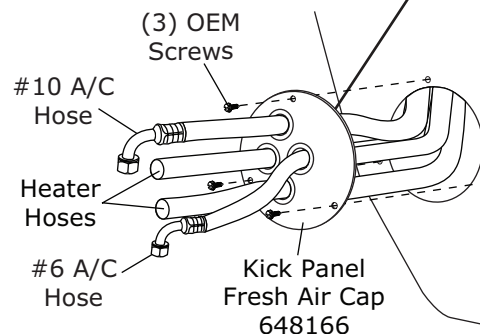

Figure 7a
4. Secure kick panel fresh air cap using (3) OEM screws as shown in Figure 7a, below.